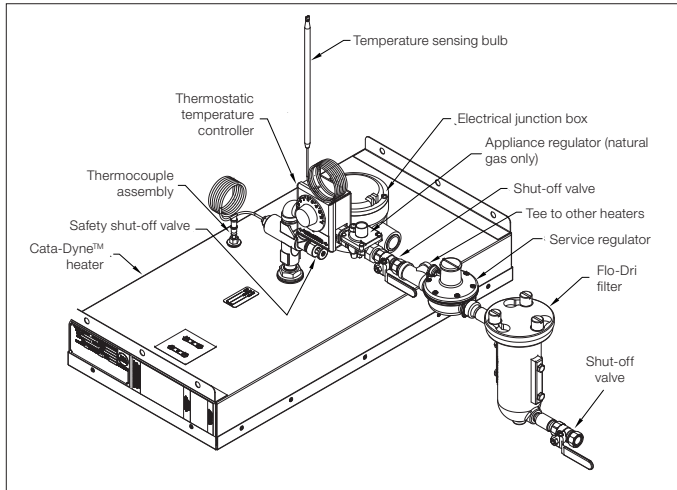
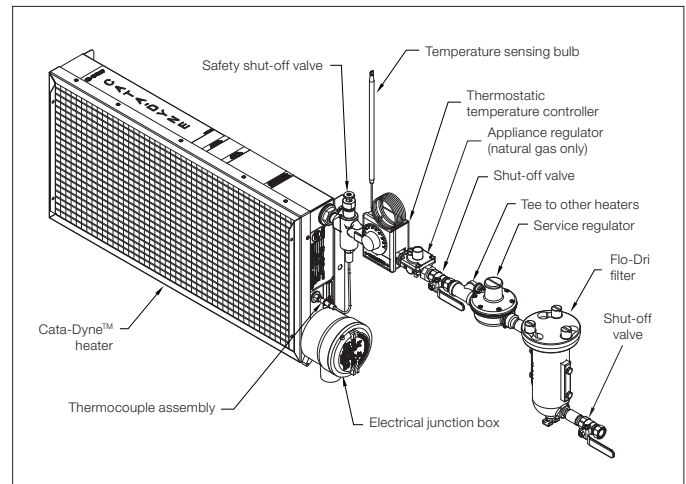

Figure 2 – Typical natural gas Cata-Dyne™ Heater installation
Figure 3 – Typical natural gas installation (MKII model only)
6. For installation, see figure 2 for typical Cata-Dyne™ Heater and figure 3 for natural gas MKII model.